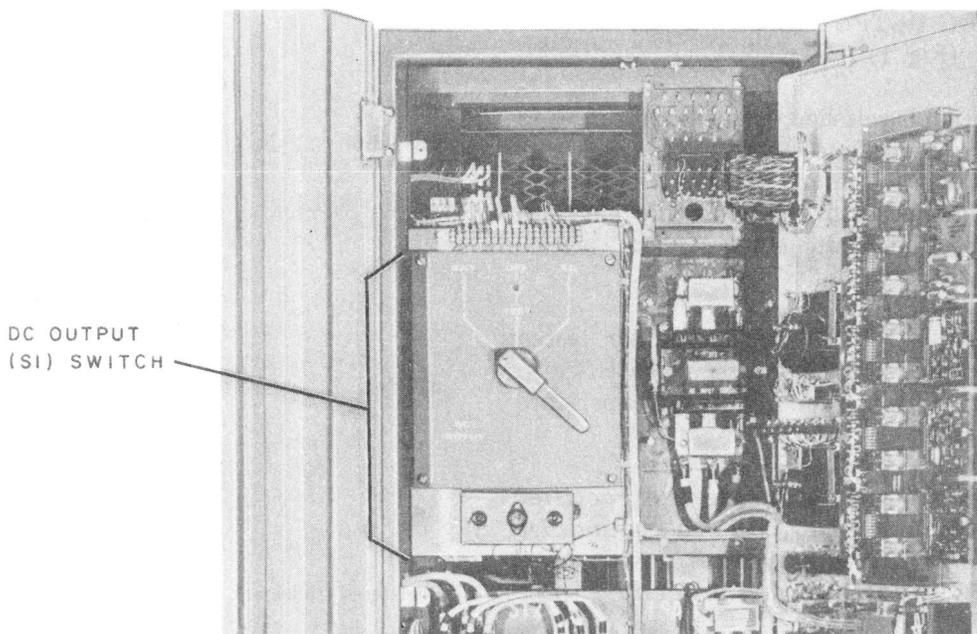

Fig. 1 — DC OUTPUT (S1) Switch—Front View
1.01 This section provides a maintenance procedure for testing, inspecting, cleaning, and lubricating the DC OUTPUT (S1) switch of the KS-20490 rectifiers (Fig. 1).